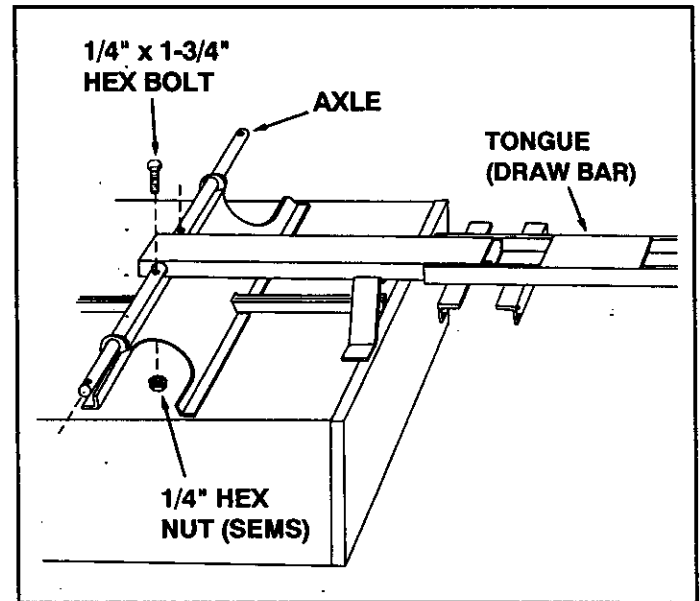

FIGURE 10
- To prevent accidental tipping during the following assembly procedures, lower the cart to rest upside down on the top flanges, so that the wheel support is facing up. Refer to figure 10 on page 9.
- Position the tongue on the bottom of the cart as shown in figure 10. Assemble the axle through the wheel support and the tongue. Fasten the axle to the wheel support using two 1/4" x 1-3/4" hex bolts and 1/4" hex nuts (SEMS). **Tighten.**